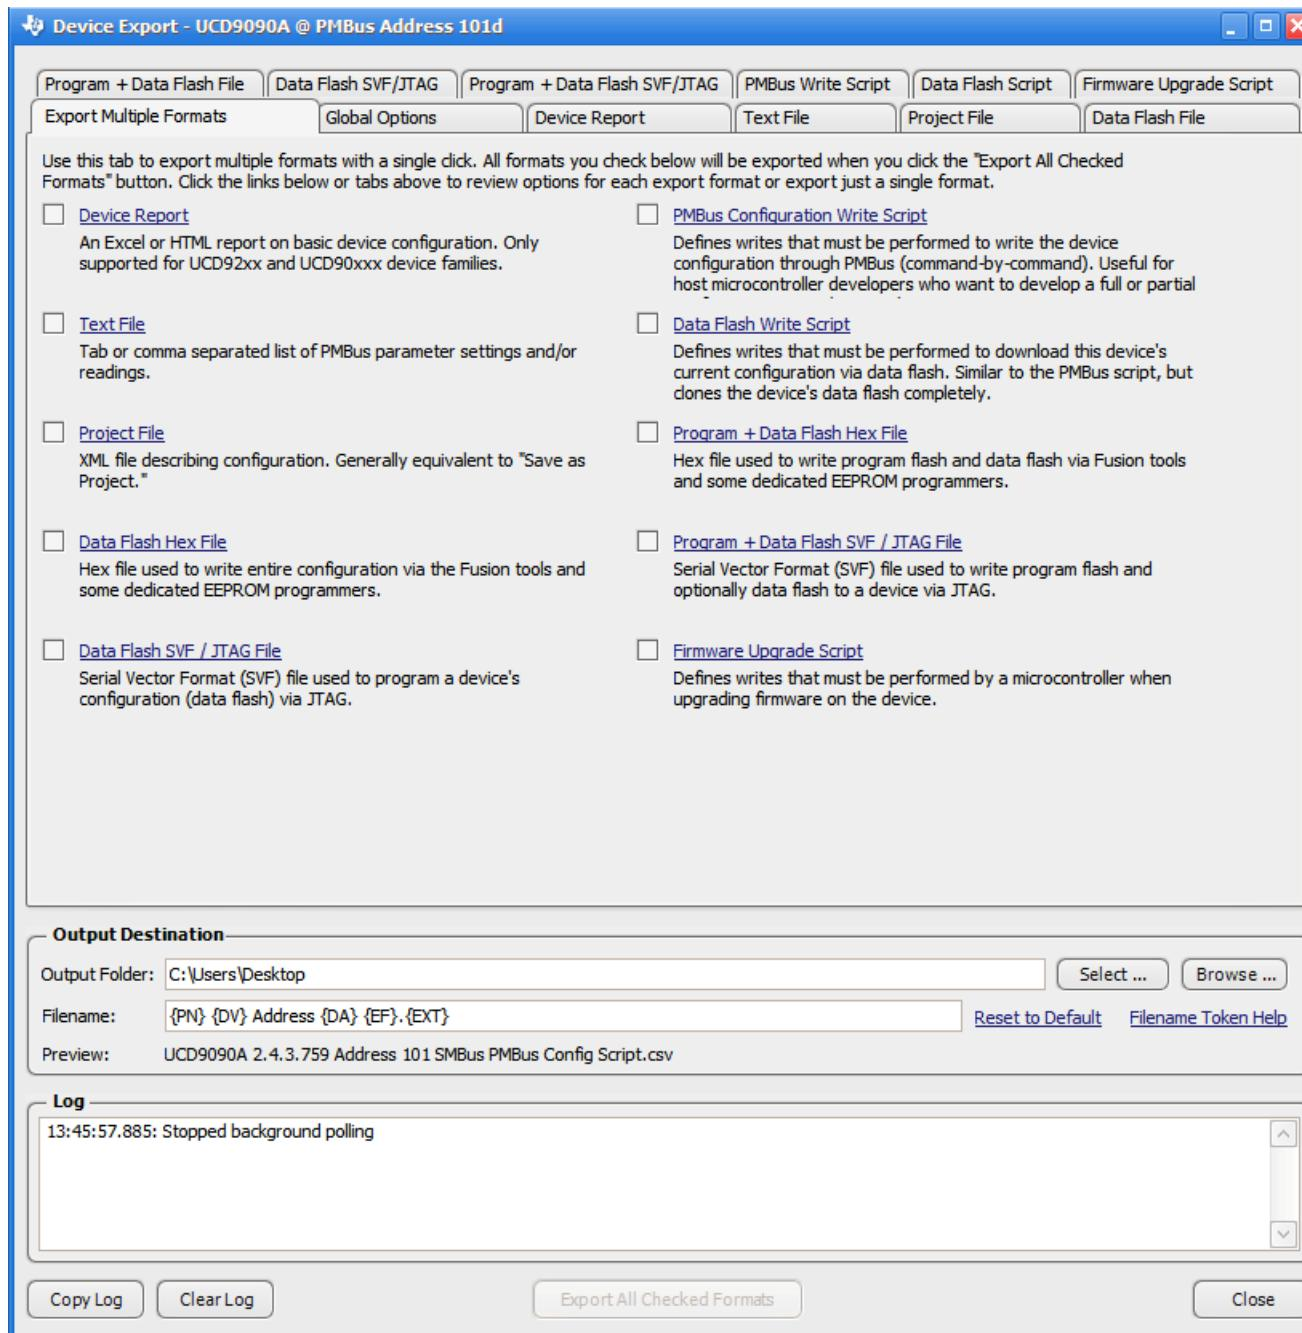

Figure 7-29. Fusion GUI Device Configuration Export Tool
3. Another in-circuit programming option is for the *Fusion GUI* to create a data flash image from the configuration file (Figure 7-29). The configuration files can be exported in Intel Hex, data flash script, Serial Vector Format (SVF) and S-record. The image file can be downloaded into the device using I²C or JTAG. The *Fusion GUI* tools can be used on-board if the *Fusion GUI* can gain ownership of the target board I²C bus. It is recommended to use Intel Hex file or data flash script file for production programming because the GPIOs are under controlled states.